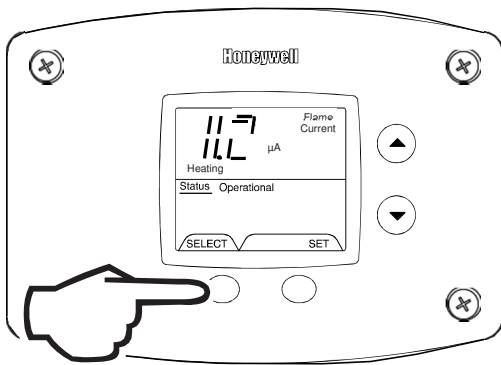

Fig. 47
3. Press the 'Select' button until a number value is displayed with 'Flame Current' to the right of the number. The value displayed is in microamps (μA). (Fig. 47)